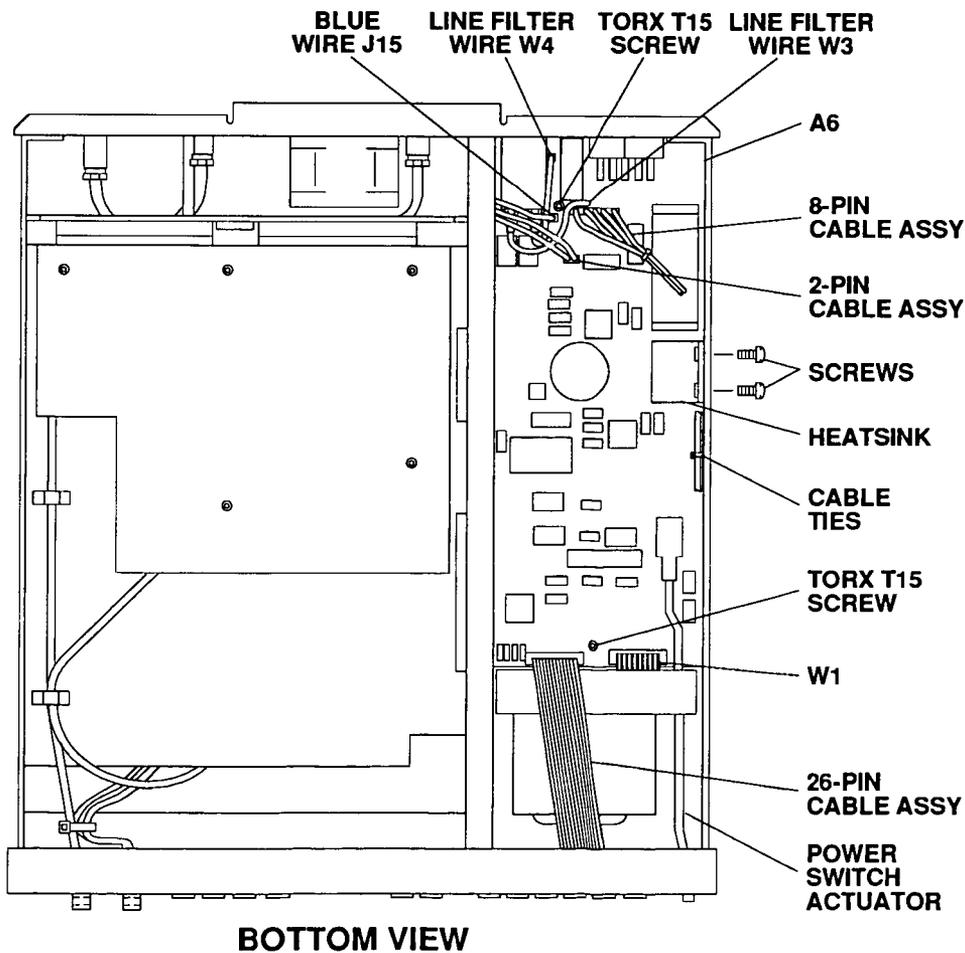

Figure 3-8. Remove and Replace A6 Outguard Power Supply PCA
2. Remove the power switch actuator (refer to Figure 3-8).